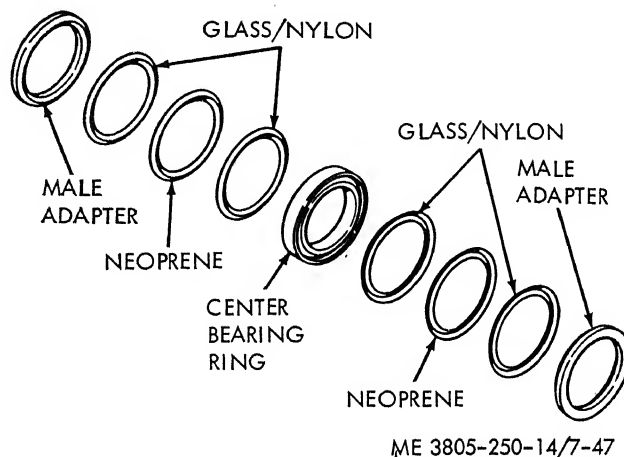

Figure 7-47. Piston packing installation.
(1) If bushings (15 and 18) were removed, press in new bushings.
(2) Assemble the packing assembly (6), flange (3) and seal (4) into the gland.
(3) Lubricate the packing with hydraulic oil, and install the gland assembly onto the rod (16). Install preformed packing (12) and backup ring (13).
(4) Install the piston packing (10) on the piston halves (9 and 11) with the hard end ring toward the flange and the bottom of the chevron toward the piston (fig. 7-47). Place the female adapter between the piston halves. Slide the piston assembly onto the rod with the piston with the deeper counterbore first. Install the washer (8) and self-locking bolt (7), and tighten bolt to 200 to 220 pound-feet.